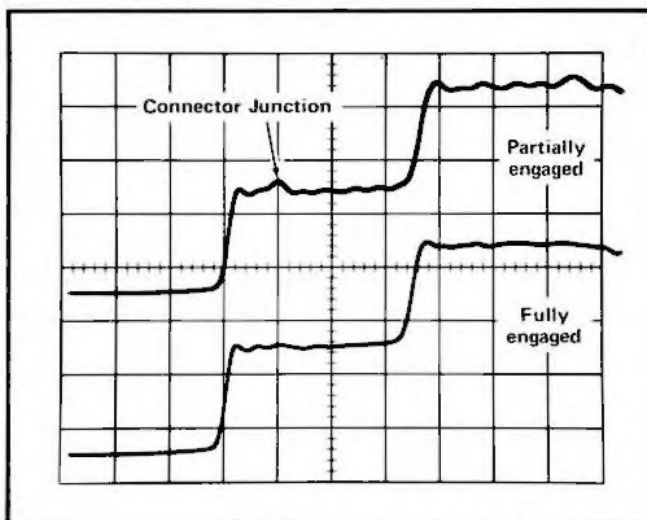

Fig. 2-9. TEST LINE connector junction location obtained by partially engaging the line to the connector.
The 1 ns semi-rigid coaxial line (Tektronix Part No. 015-1023-00) should be used when making time or distance measurements because S-6 and S-52 waveform discontinuities are in the first 2.0 ns. The junction of the transmission line and the sampling head connector is found by partially disconnecting the line under test from the sampling head connector to produce an inductive discontinuity (see Fig. 2-9) at the junction. Adjust the FINE control to place the discontinuity, a bump, at a convenient reference point for the measurement and then fully reconnect the transmission line.
5. Produce an inductive discontinuity at the cable connector by partially disengaging the cable connector from the 1 ns coaxial line connector. Adjust the FINE control to position the discontinuity (a bump on the displayed waveform) at a convenient reference line and then fully engage the connector. See Fig. 2-9 which illustrates this discontinuity.